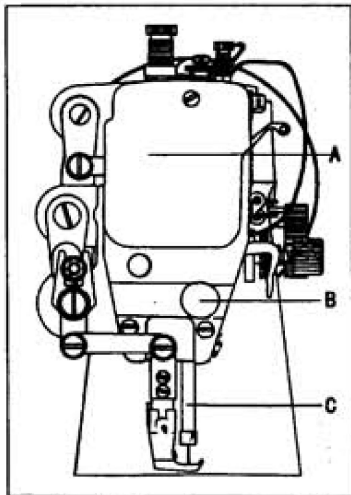
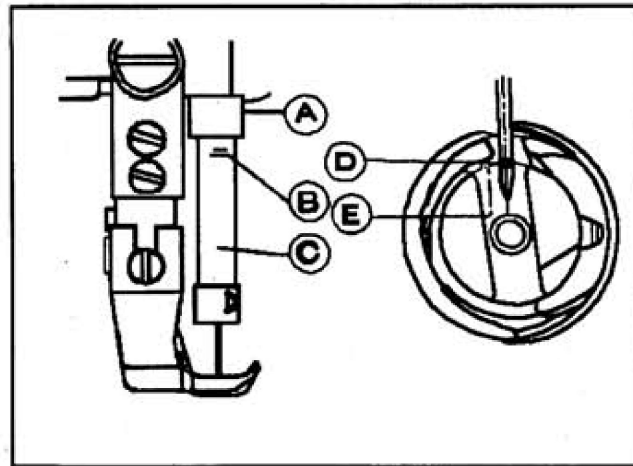

Fig. 17
Fig. 18
16. TIME NEEDLE TO ROTATING HOOK (Fig.17,18,19,20)
A. Adjusting the needle position (See Fig.17)
- 1) Turn balance wheel by hand to bring Needle Bar (C) to the lowest position of its stroke.
- 2) Remove rubber plug from Face Plate (A).
- 3) Loosen Set Screw (B) of needle bar adaptor.
- 4) Move Needle Bar (C) vertically to adjust needle timing.
- 5) After the adjustment, tighten Set Screw (B) and put in the rubber plug. The standard needle timing (See Fig.18) is to align Timing Mark (B) on the needle bar and the bottom of Needle Bar Bushing (A) and meanwhile align the Inner Surface (E) of the hook and the center of Needle Eye (D) when the needle bar gets down to its lowest position.